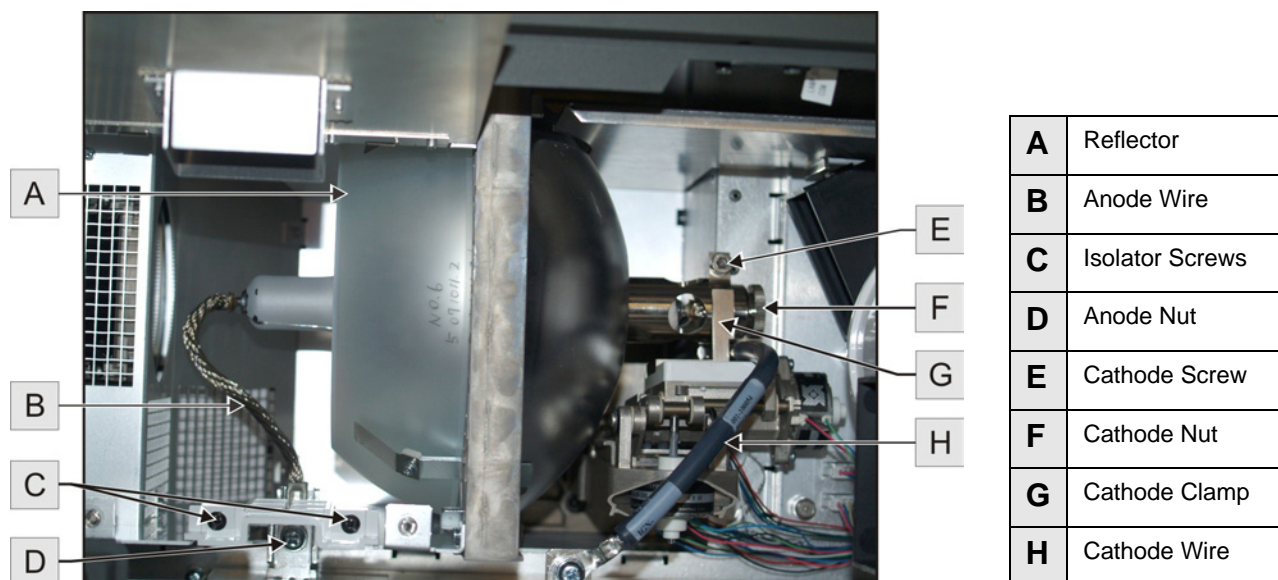

Figure 6-2 Lamp Assembly
- a. Remove the 2 captive screws securing the isolator (**Figure 6-2/C**).
- a. Remove the screw securing the anode wire with a 5mm hex key. (**Figure 6-2/D**).
- b. Loosen the cathode screw (**Figure 6-2/E**) on the rear access nut (**Figure 6-2/F**).
- c. Hold the lamp from the anode end and carefully unscrew and remove the cathode nut (**Figure 6-2/F**).
- Tighten the cathode screw (**Figure 6-2/E**) onto the cathode end of the lamp with a hex key.
- Align the ring terminal on the anode wire (**Figure 6-2/B**) with the mounting position (**Figure 6-2/D**), ensuring the crimped side of the wire is facing out. Tighten the anode screw. **NOTE:** Route anode lead away from nearby metal surfaces.